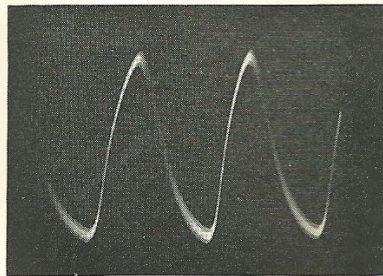

Fig. 85. Pin No. 7 V209 (Horizontal) P-P—6V.
7. Rotate A.G.C. control completely clockwise. Observe waveforms at pin No. 7 and pin No. 5. These should be approximately the same as Fig. 85 and Fig. 86.